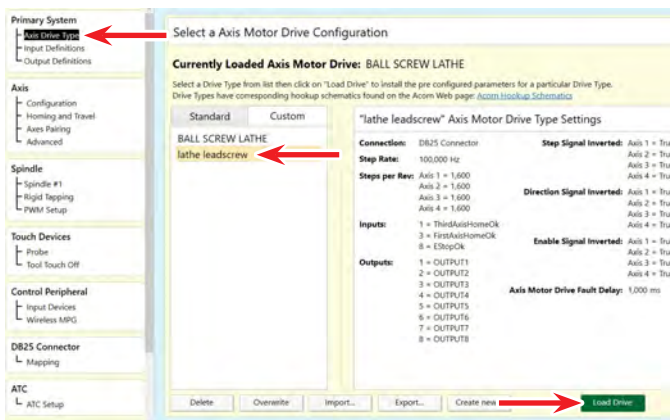

FIGURE 13
17. When the Acorn Wizard opens up, click on Axis Drive Type. Choose the standard Axis Drive for your machine (in this case, we are choosing “lathe leadscrew”). Then click on “Load Drive” (see Figure 13).